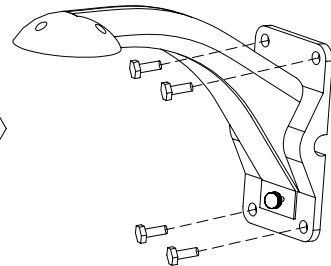

Figure7
- 4) Fix the bracket on the wall ( Figure7 ) .